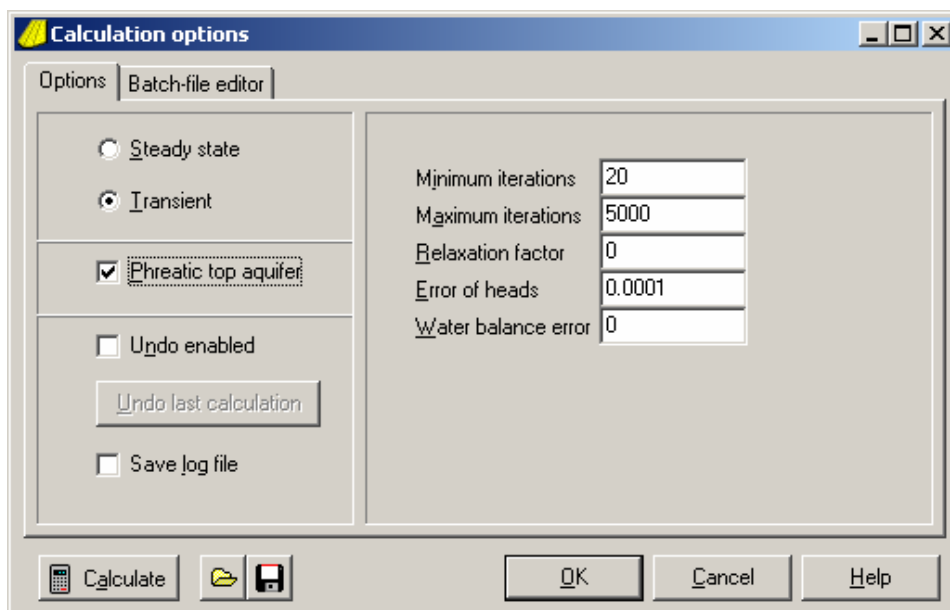

Figure 34: Calculate window (2)
9. In the Main Menu click on "Calculate", then click on the Options-tab. The "Phreatic top aquifer" option is now accessible. Place a check mark at this option (Figure 34), then click on the OK-button. Just leave the other options and fields untouched.